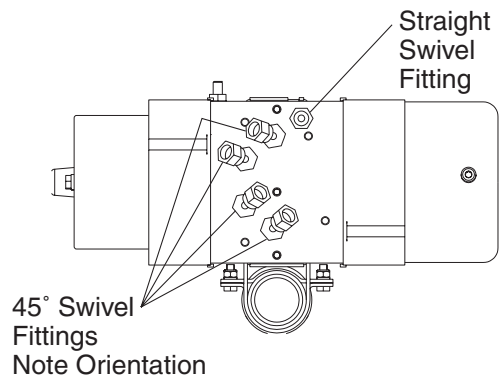
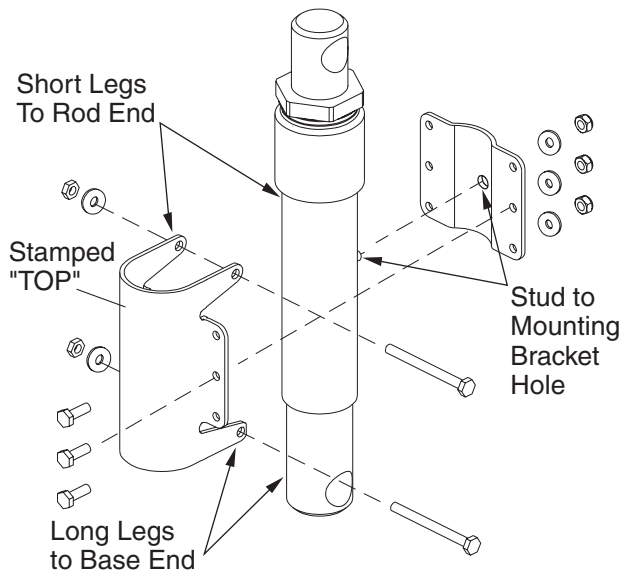

Figure 12
Figure 13
3. Install four 45° swivel fittings into angle ram ports. Position fittings as shown in Figure 12.
4. Install one straight swivel fitting into the lift port. (See Figure 12.)
The hole in the back bracket fits over the stud on the lift ram. Secure as shown in Figure 12 with six 1/4"-20 x 3/4" bolts, 1/4" flat washers, and nylon locknuts. Torque to 9 ft./lb. (See Figure 13.)